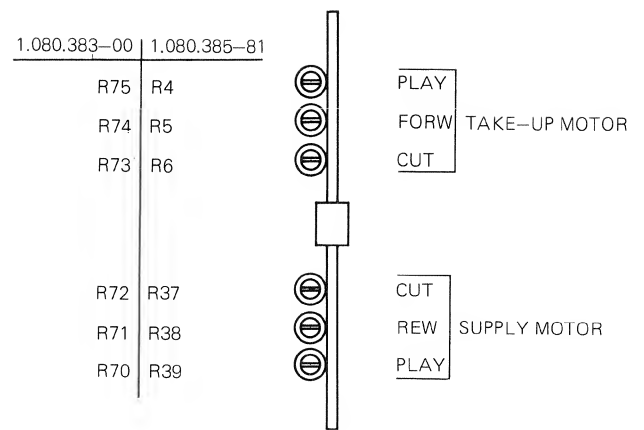

Fig. 2.5.—3
1. Tape tension adjustment, SUPPLY motor: Place the empty NAB reel with 2 to 3m of tape on the left turntable. Remove Pinch roller ① (unscrew cover nut. Caution: left-hand thread). Thread the tape in accordance with fig. 2.5.—2 and attach the spring balance (0...500g) to the end of the tape (loop).